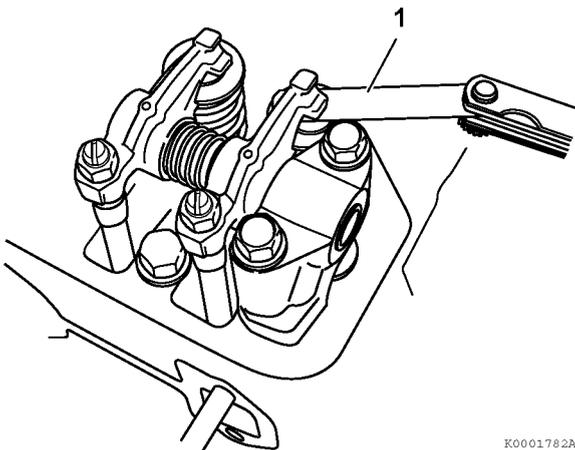

Figure 6-41
3. Insert a feeler gauge (1, **Figure 6-41**) between the rocker arm and valve cap, and record the measured valve clearance. (Use the data for estimating the wear.)